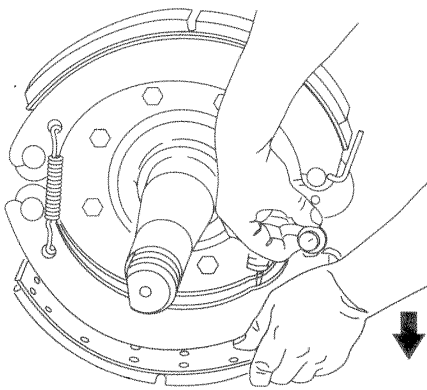

Fig. 1, Remove the Bottom Cam Roller
5.1 Push down on the bottom brake shoe, and pull on the roller retaining clip to remove the bottom cam roller. See Fig. 1.